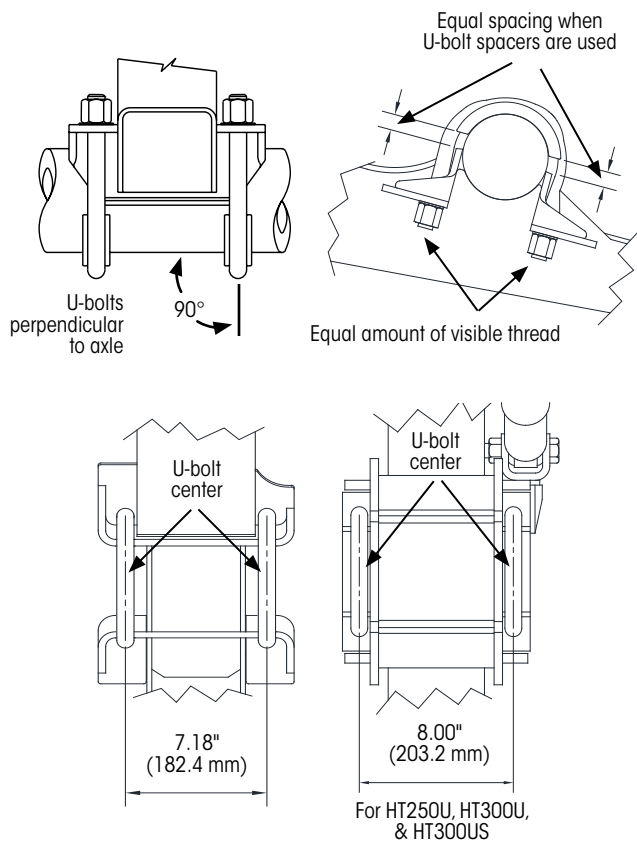

Figure 15: U-bolt positioning
NOTE: The type of U-bolt (Figure 15) differs among HT™ Series suspensions. Refer to parts lists at www.hendrickson-intl.com/TrailerLit for the correct U-bolt type.
4. If with spacers, **check** to ensure correct positioning on the axle (Figure 15). **Adjust** if needed.
IMPORTANT: Proper tightening will result in an equal amount of thread visible above the nut on each side of the U-bolt (Figure 15).